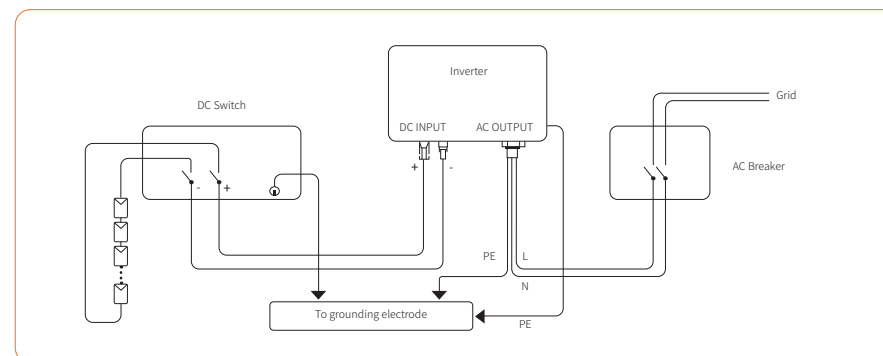

Figure 4-15
① The DC switch of Sunways inverter is optional. Local standards or codes may require that PV systems are fitted with an external DC switch on the DC side. The DC switch must be able to safely disconnect the open-circuit voltage of the PV array plus a safety reserve of 20%. Install a DC switch to each PV string to isolate the DC side of the inverter.
② The DC switch has to be certified by AS 60947.3:2018 and AS/NZS IEC 60947.1:2015. The Max.current of the DC switch matched by STS-7-11KTL inverter no less than 40A. We recommend the following electrical connection, as shown in Figure 4-15: